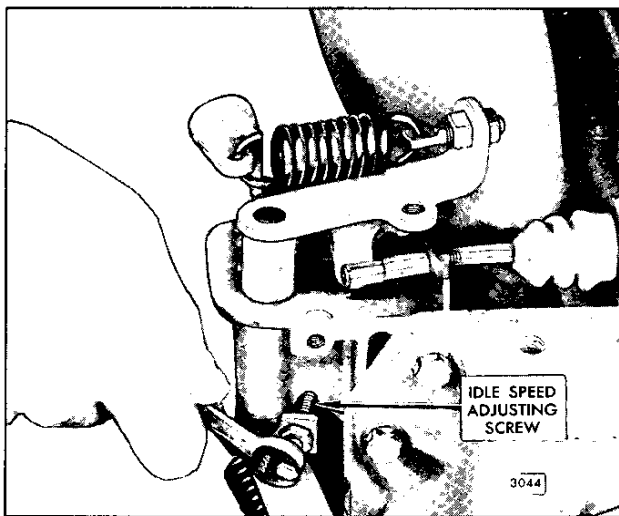

Fig. 6 – Adjusting Idle Speed
2. Loosen the locknut and adjust the maximum speed adjusting screw (Fig. 6) until the required no-load speed is obtained.
2. With the engine running at normal operating temperature, loosen the locknut and turn the idle speed adjusting screw (Fig. 6) until the engine idles at the recommended speed. The recommended idle speed is 500 rpm. However, the idle speed may vary with special engine applications.